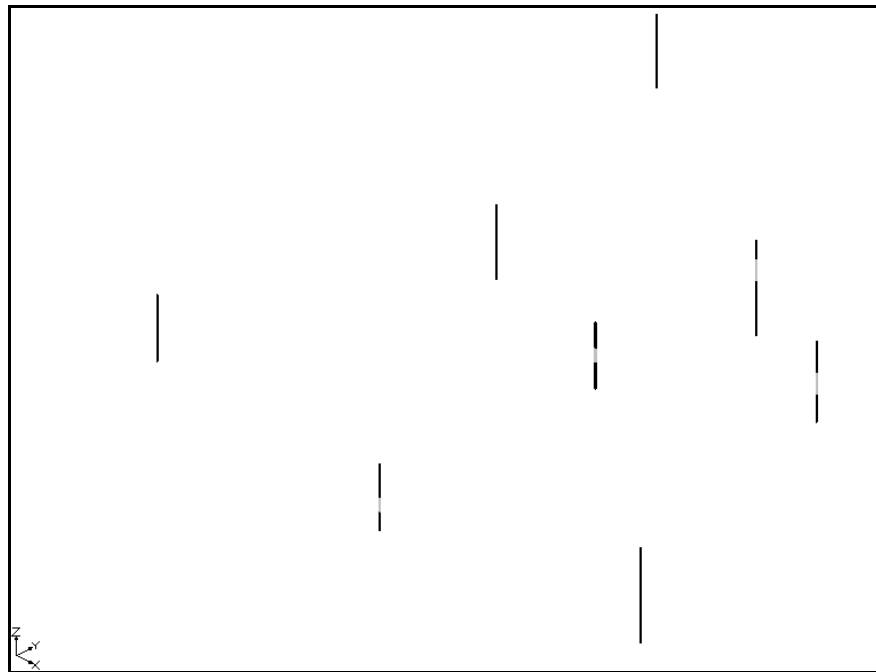

Figure 1 Oblique view showing the imported boreholes
8. Click **Oblique View**  so the boreholes are more visible (Figure 1).